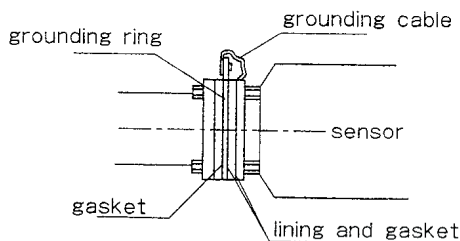

Figure 18. Connection for a non-inductive pipe
- b) For the non-inductive pipe, the grounding rings should be installed between the both flanges for sensor and the both flanges for pipe. See figure 18.